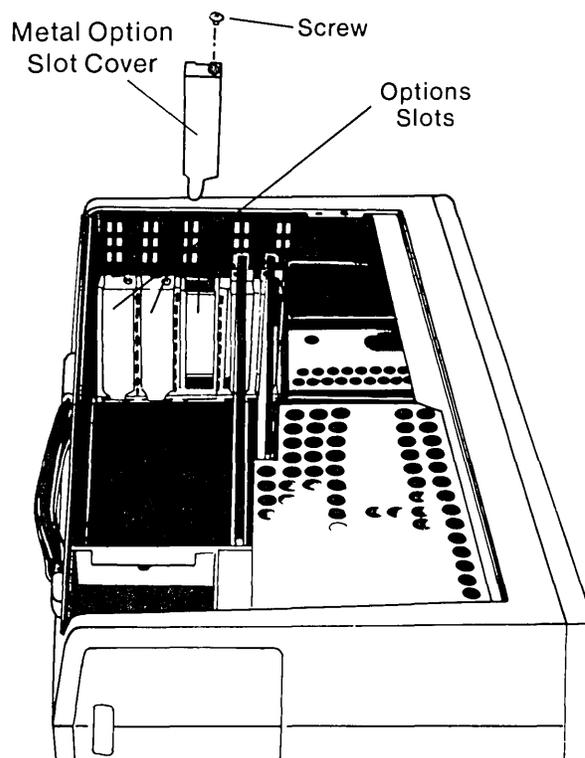

Figure 11-26. Metal Option Slot Cover.
10. Remove the metal option slot cover for location where the fixed disk controller will reside (see Figure 11-26).